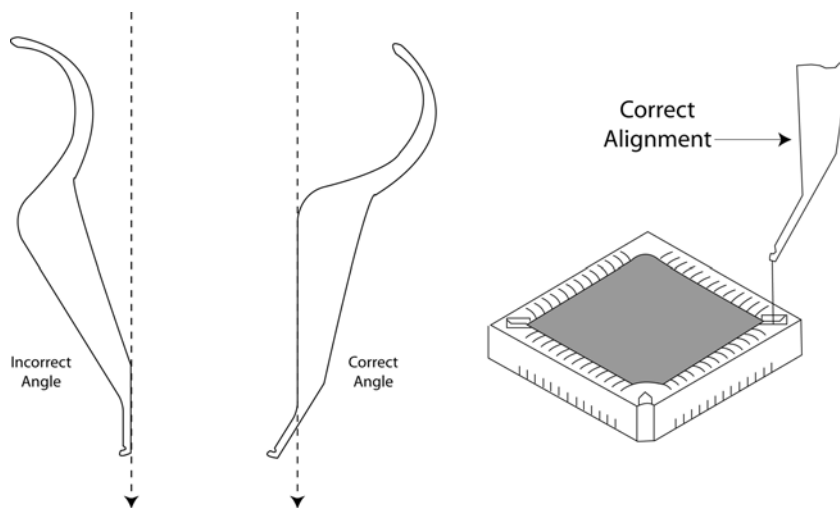

Figure 3: Correct Angle of Extraction Tool
3. It is important to use the extraction tool at the proper angle in order not to damage the chip and socket (see Figure 3 on page 2).